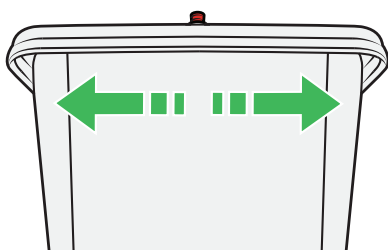

Figure 143
2. Wiggle the cover left and right and back and forth, see Figure 143.